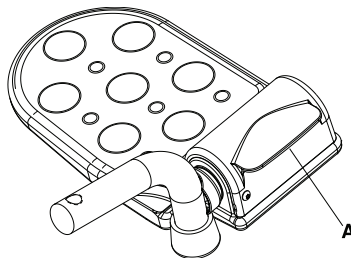

Figure 6: Flip-up footrest lever
4. Using your foot, lower the flip-up footrest to the transport position by lifting up on the footrest lever (A) (Figure 6 on page 16).